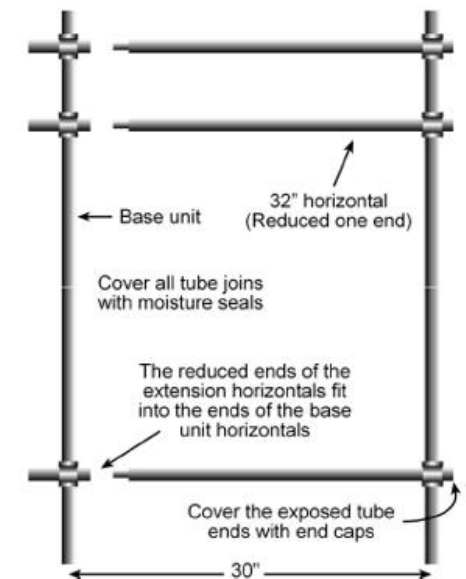

Figure 2: Adding the Pergola Cross Pole Extensions
- If you are have chosen the lattice option you will need to position the Cross Poles, on the uprights, approximately 40" away from one another, as illustrated in Figure 2, to accommodate the lattice infill.